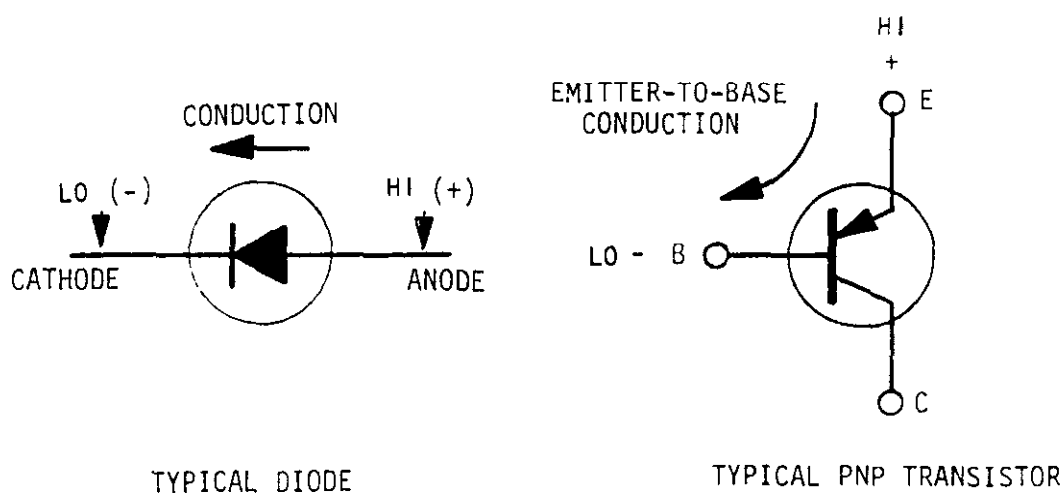

FIGURE 3-6. Semiconductor Diode and Transistor Testing.
5. Semiconductor Diode and Transistor Testing. The Model 172A/173A can be used to test diodes and transistors to determine the relative condition of the device. For semiconductor diodes, the voltage applied must be sufficient to cause conduction in the forward direction. The "HI OHMS" mode provides a voltage up to 3 volts at a current up to 1 milliampere. Since the HI terminal is positive with respect to LO terminal, connections should be made as shown in Figure 3-6 to cause forward conduction of diodes. Since the maximum current is available on the 3 K Ω range, depress AUTO/MAN (Set to MAN) and manually range to the 3 K Ω range (down-range).